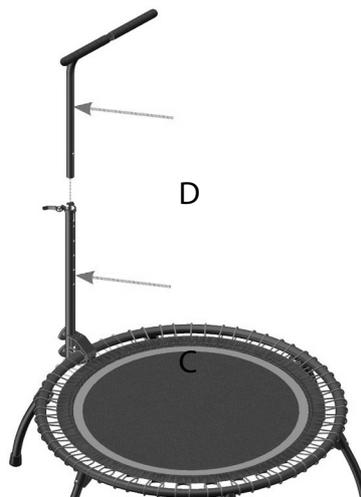

fig. 6
Insert the adjustable tube (D) into the support tube (C) (see fig. 6).